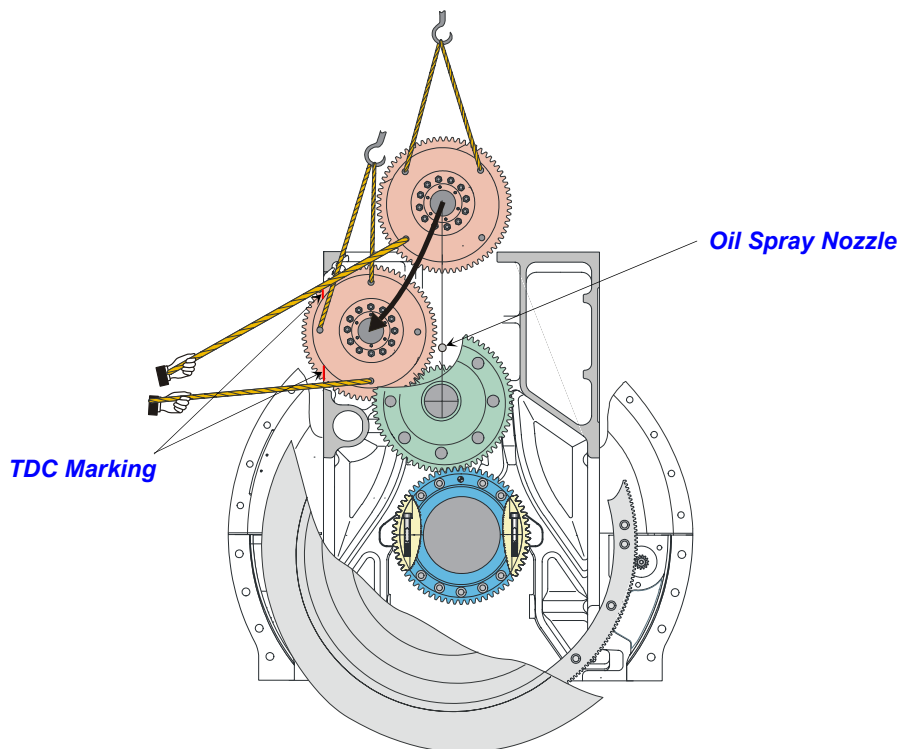

Fig.2 Mounting of the camshaft gear (캠 샤프트 기어의 조립)
3. Lift the camshaft gear and insert it through the opening of the engine block carefully while avoiding not touching the teeth with adjacent parts and oil spray nozzle as well as shown in fig. 2.